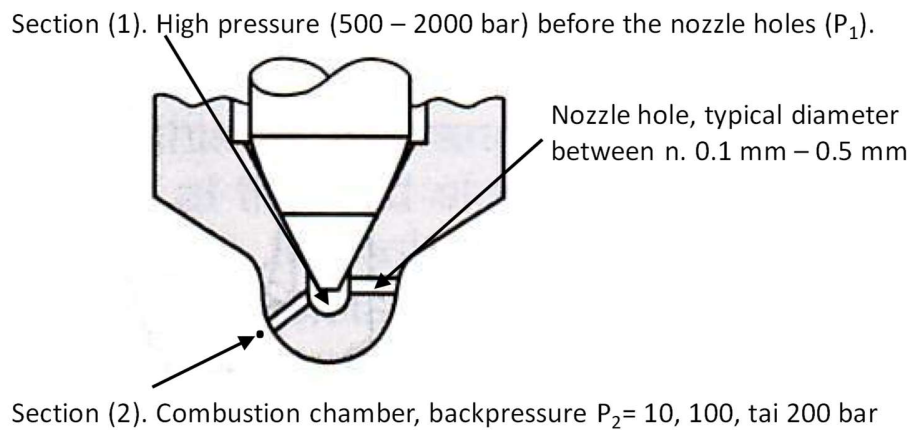

Figure 2. A section cut from an engine nozzle tip.
- 4 In the nozzle of an internal combustion engine, the liquid pressure is transformed into liquid velocity. In the Figure 2, there is shown the sectional cut of a nozzle tip. By using the Bernoulli equation, calculate the liquid velocities right after the nozzle exit (Section (2),  $V_2$ ). We can assume that the velocity before the nozzle is very low (Section (1),  $V_1$ ). By using Matlab, show the injection velocity by using injection pressures between 500-2000 bar with 100 bar steps. In addition, the backpressure ( $P_2$ , Section (2)) in the combustion chamber is either 10 bar, 100 bar, or 200 bar. **NOTE, here is a free jet that we typically assume to be at the atmospheric pressure of 1 bar. But now, the free jet enters into a combustion chamber of an engine with the pressure of either 10, 100, or 200 bars.** Using literature, find a realistic value for diesel fuel density at room temperature.